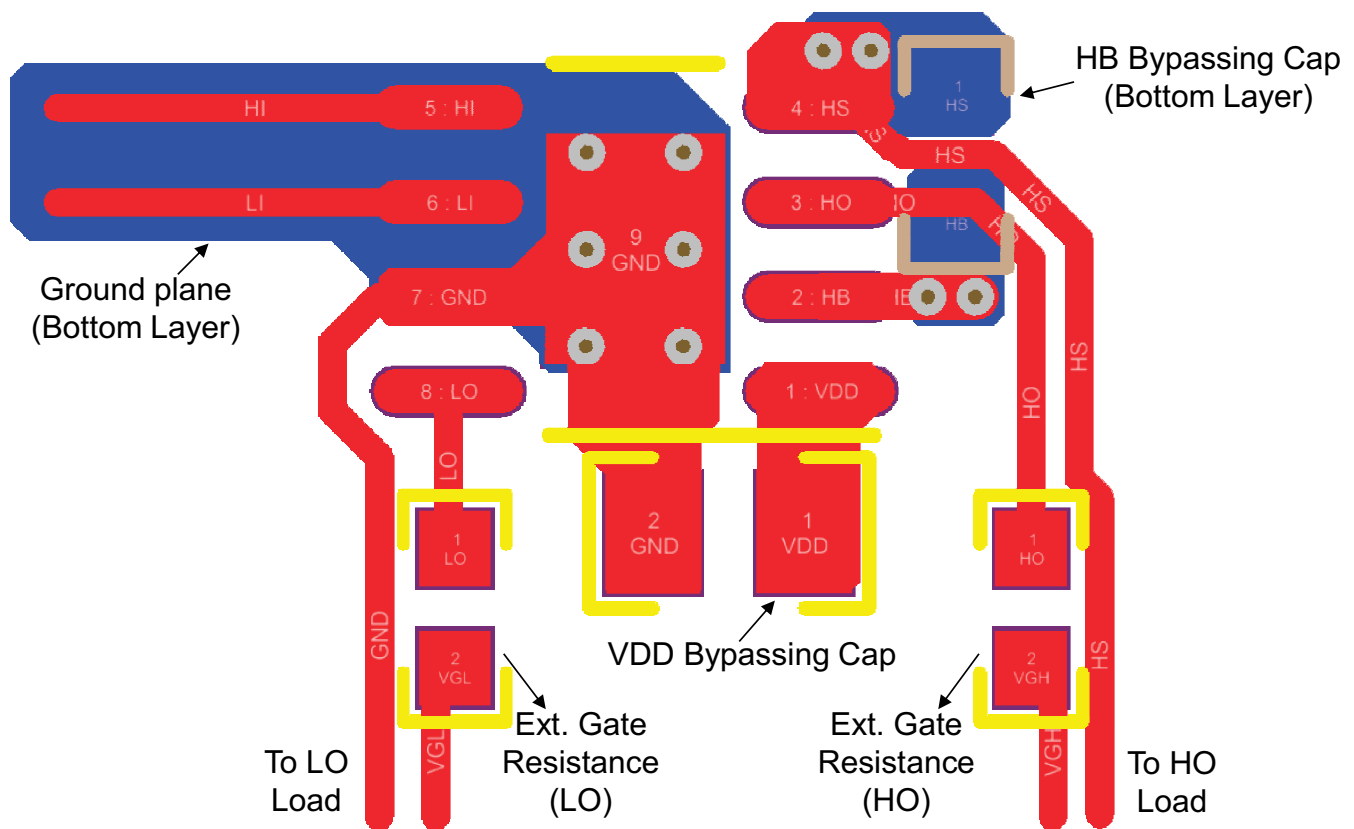

Figure 9-1. UCC27211A PCB Layout Example
- Locate the $V_{DD} - V_{SS}$ and $V_{HB} - V_{HS}$ (bootstrap) capacitors as close as possible to the device (see Figure 9-1).